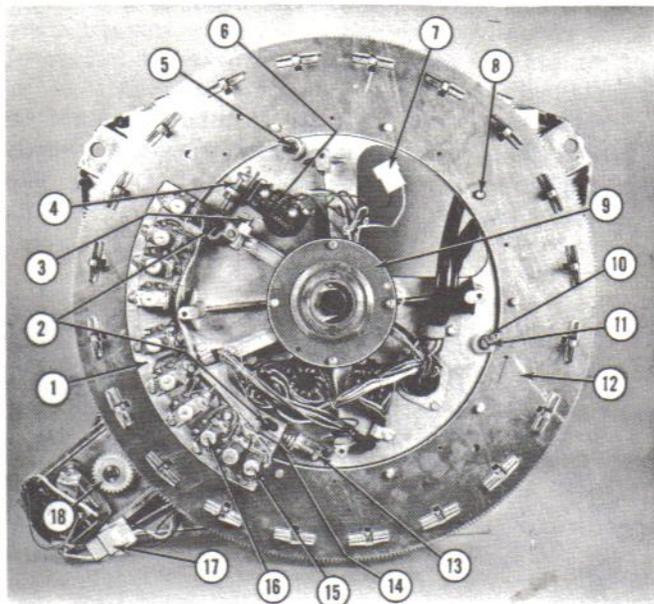
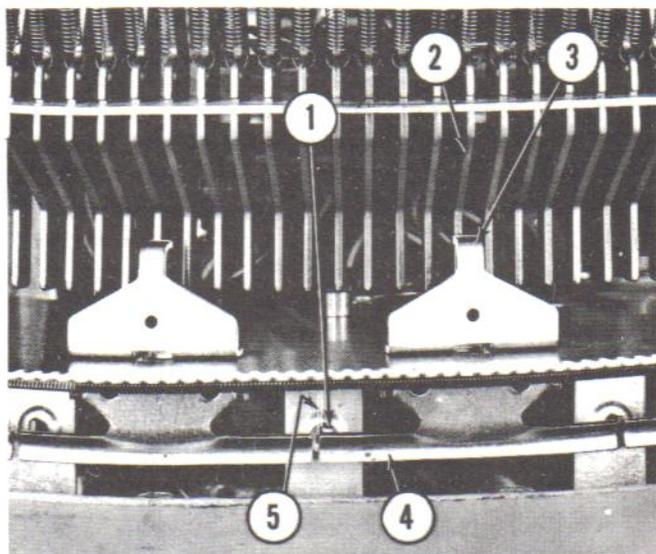
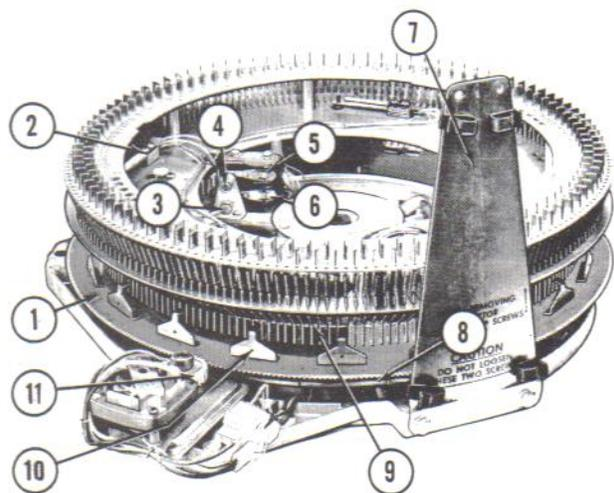

Fig. 20. ELECTRIC SELECTOR - 2500
Fig. 21. ELECTRIC SELECTOR - 2500
Fig. 22. ELECTRIC SELECTOR - 2500
(1) Manually depress the number "1" solenoid plunger (Fig. 20, Item 15) and turn the rotating plate and rocker arm assembly (Item 12) in a clockwise direction by turning the nylon gear (Item 18) of the selector motor assembly. One of the 10 stop pins (Item 8) will contact the depressed plunger of the number "1" solenoid. Continued rotation of the nylon
gear will drive the number quadrant (Item 1) until it rests against the forward stop screw (Item 4). In this position, the left hand end of the actuator bar (Fig. 21, Item 4) of the rocker arm should be in line with the left hand edge of the formed tip of the Letter Coil plunger (Item 1) with a maximum overtravel of 1/32 inch. The forward stop adjusting screw (Fig. 20, Item 4) may be set to provide correct alignment. The tip of the rocker arm (Fig. 21, Item 3) may contact the edge of the selector pin (Item 2) on the center line
(2) Release the nylon gear and allow the number quadrant to return to rest position. Then repeat the foregoing steps depressing the number "0" stop solenoid plunger (Fig. 20, Item 16). Manually hold the number quadrant in its forward stop position with the nylon gear (Item 18) and check the alignment of the letter solenoid plungers with the rocker arm actuating bars. The number "0" position will be at the opposite end of the rocker arm actuating bar from the number "1" position and the right hand edge of the formed tip of the letter solenoid plungers should be approximately 1/16" to 1/32" in from the end of the bars.
The start switch (Fig. 22, Item 6) should be checked after any adjustment of the forward stop screw (Fig. 20, Item 4). It is actuated by the forward movement of the number quadrant and the adjusting screw (Fig. 22, Item 4). It is important that this switch operate very close to the time when the number quadrant stops against the forward stop screw. The following method may be used to adjust the start switch. Manually hold a number solenoid plunger depressed. Turn the rotating plate and rocker arm assembly in a clockwise direction by turning the selector motor nylon gear (Fig. 20, Item 18) until the number quadrant (Item 1) rests against the forward stop screw (Item 4). Hold the number quadrant firmly in position with the nylon gear and back out the actuating screw (Fig. 22, Item 3) until the switch is in its normally closed position. Turn the actuating
The number quadrant (Fig. 20, Item 1) is held against the back stop screw (Item 13) in its normal rest position by its retracting spring (Item 14). The back stop screw should be adjusted to provide 1/16" overtravel of the number quadrant after the start switch resets on return of the number quadrant.
The following method may be used to adjust the back stop screw. The number quadrant must be in its normal rest position. Turn the back stop screw (Fig. 20, Item 13) in, driving the number quadrant forward until the start switch (Fig. 22, Item 6) actuates. Turn the back stop screw out until the start switch resets plus two full turns for overtravel.
This adjustment should follow any adjustment of the back stop screw. Figure 22, Item 5 shows the reverse switch. While the number quadrant is in its normal rest position turn the adjusting screw (Item 4) in until the reverse switch actuates. Then back the adjusting screw out until the reverse switch resets plus 1/2 to 1 full turn for overtravel.